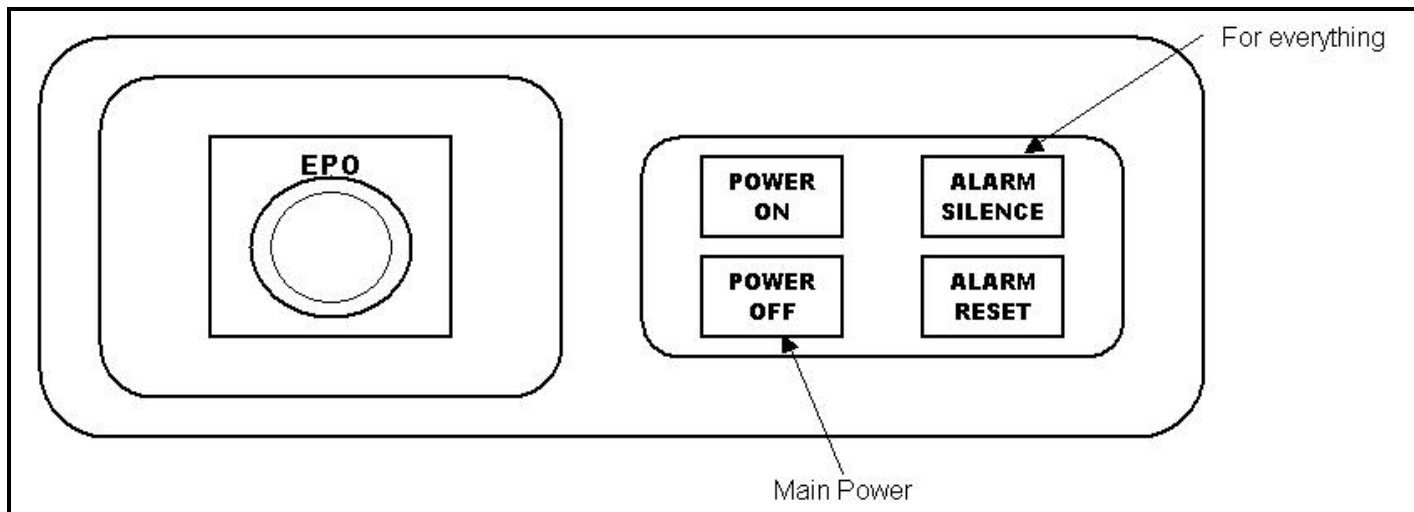

Figure 4
9.2 Control Key Functions for Overall Sink Operations (Figure 4)